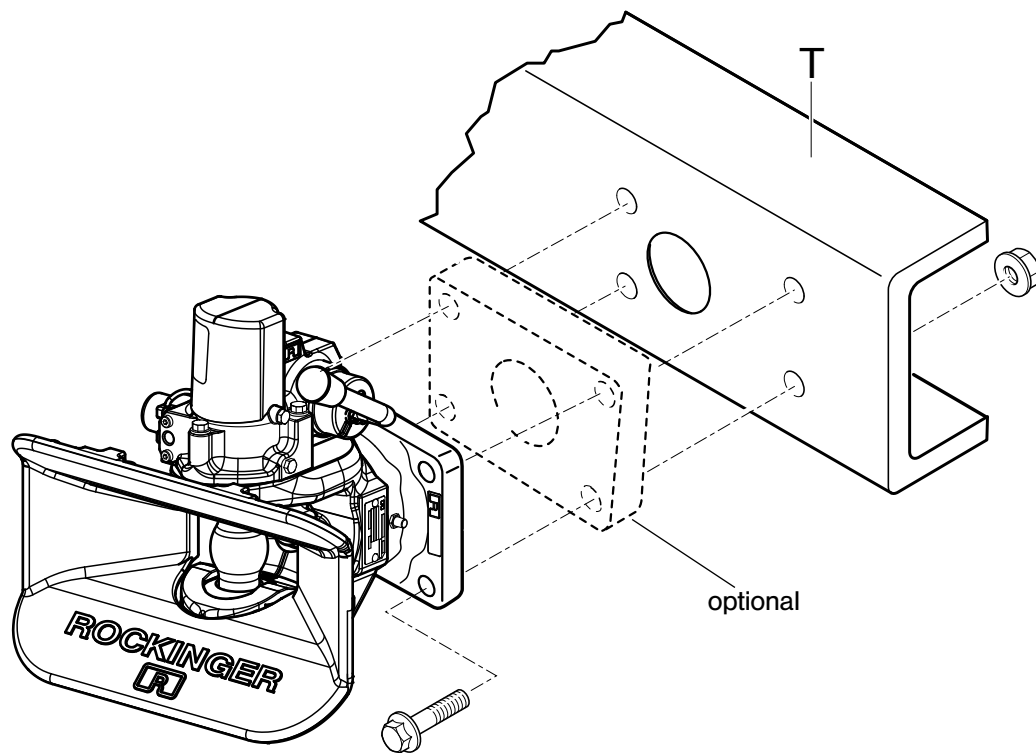

Fig. 1
- use the separate adapterplate (see fig. 1, order nr. 71053)
ATTENTION: Mount bolt heads on the side directed towards the jaw (outside the cross member) to avoid impairing movability of the hitch (see fig. 1).